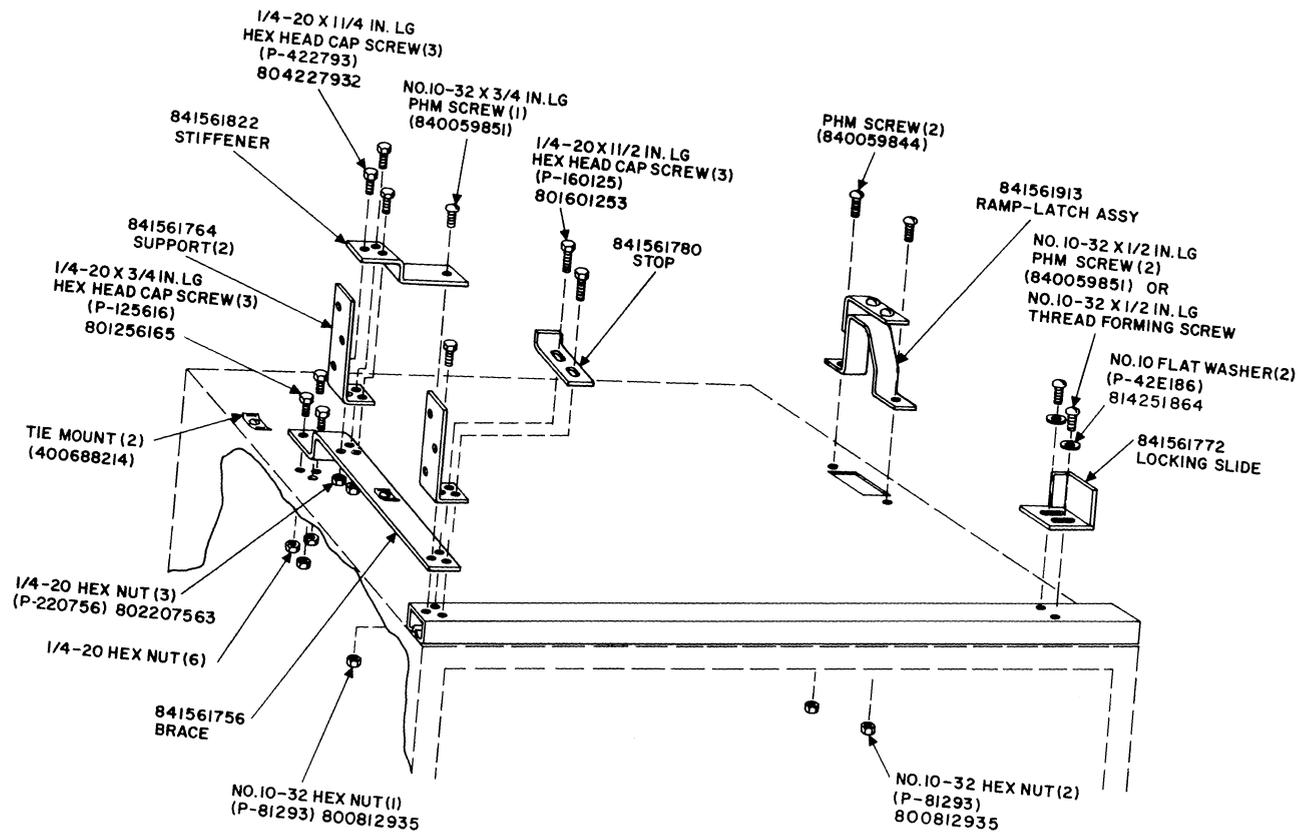

Fig. 9—Installation of Carrier Supports in Crown of Cabinet A
- (c) Place a brace (841561756) on the left of the cabinet top, and secure, at the rear only, using three No. 1/4-20 by 3/4-inch long hex head cap screws (P-125616 or 801256165) and three No. 1/4-20 hex nuts (P-220756 or 802207563) as shown in Fig. 9.
(d) Position the stiffener (841561822) and one support (841561764) over the mounting holes on the rear of the brace as shown in Fig. 9, and secure using three No. 1/4-20 by 1-1/4 inch hex head cap screws (P-422793 or 804227932) and three No. 1/4-20 hex nuts (P-220756 or 802207563).
(f) Position the remaining support (841561764) and stop (841561780) on the front end of the brace and secure the support, stop, and brace to the channel on the top of cabinet using three No. 1/4-20 by 1-1/2 inch long hex head cap screws (P-160125 or 801601253) and three No. 1/4-20 hex nuts (P-220756 or 802207563) as shown in Fig. 9.
(g) Install the ramp-latch assembly (841561913) to the right side of the cabinet top as shown in Fig. 9. Secure the assembly using two No. 10-32 by 7/16-inch long pan head machine screws (840059844) and two No. 10-32 hex nuts (P-81293 or 800812935).
(h) Position the locking slide (841561772) over the two tapped holes on the right of the channel (Fig. 9). Secure the slide to the channel by using two No. 10-32 by 1/2-inch long pan head machine screws (840059851) and two No. 10 flat washers (P-42E186 or 814251864) or two No. 10-32 by 1/2-inch thread-forming screws provided in the kit.
(i) Install the tie mount (400688214) at the tapped hole in the center of the brace (841561756) and the tapped hole to the rear of the brace as shown in Fig. 9 by using one No. 8-32 by 3/8-inch long pan head machine screw (840059067) or one No. 8-32 thread-forming screw in each.